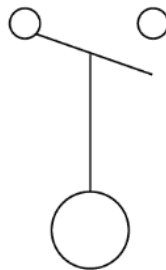

Figure 2.52
12. The symbol in *Figure 2.52* represents _____